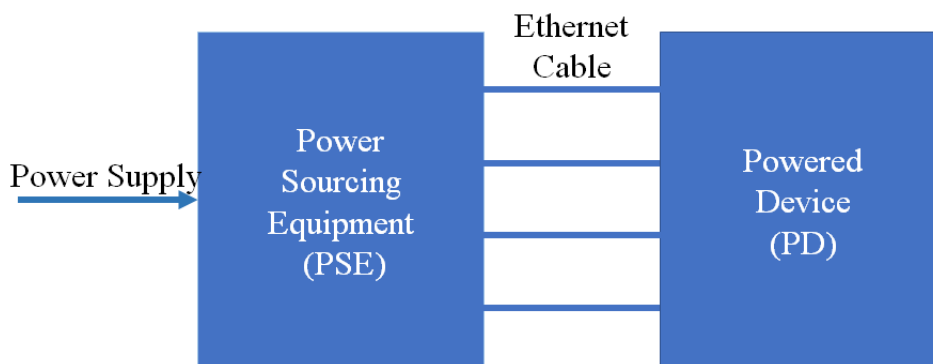

Figure 2: Main Components of PoE
The majority of PoE solutions are comprised of two parts: the powered device (PD) and the power-sourcing equipment (PSE) (see Figure 2). While both the PSE and PD receive power from the AC power source, the PSE behaves like a power source, whereas the PD consumes power. To ensure that the PSE delivers power to the PD, a handshake process is used to protect the PD from damage in case it is connected to PSE devices with an incompatible protocol.